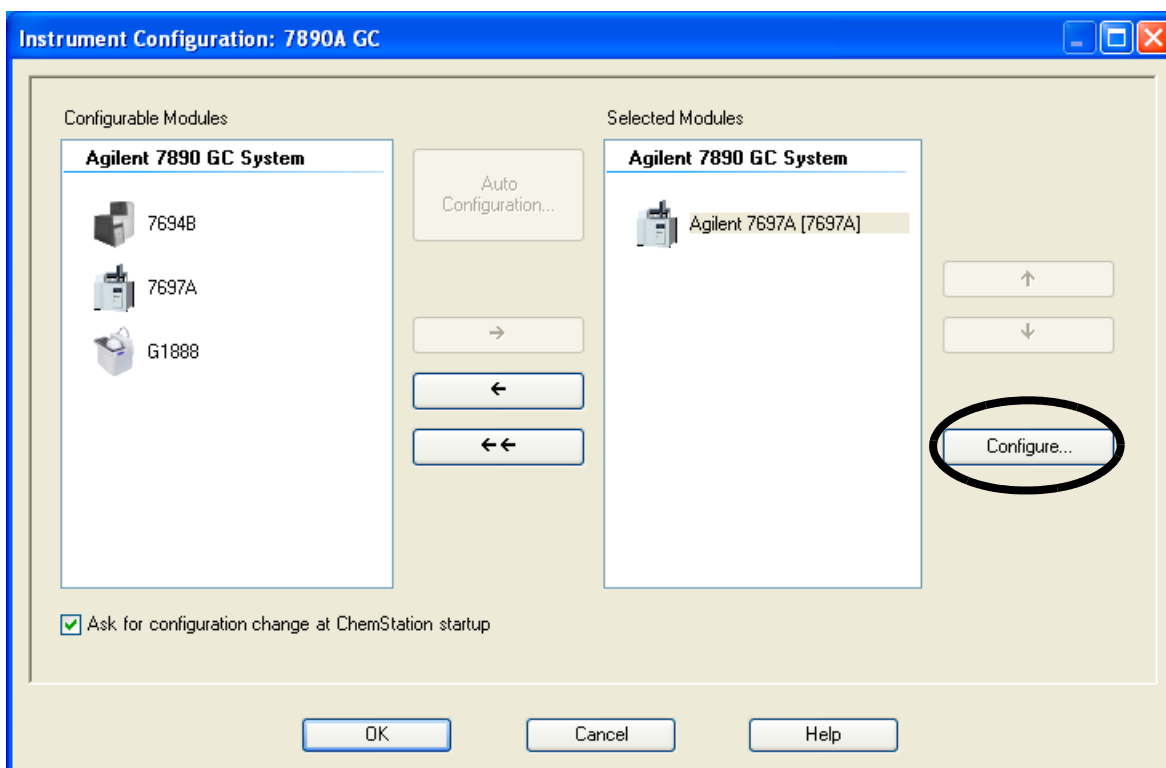

Figure 6 Instrument Configuration
- 3 Use **Instrument Configuration** to configure your HS (Figure 6). Select **Configure...** to view configuration parameters and licensing information for the selected instrument. Refer to the software help for more information.